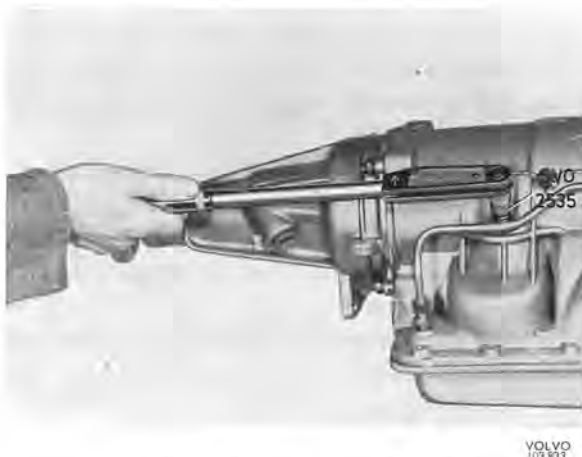

Fig. 4-75. Adjusting rear brake band
2. Use the special socket 2535 and connect the torque wrench to the adjusting screw, see Fig. 4-75. Tighten the screw to 14 Nm (10 lbft). Back off the adjusting screw one turn.